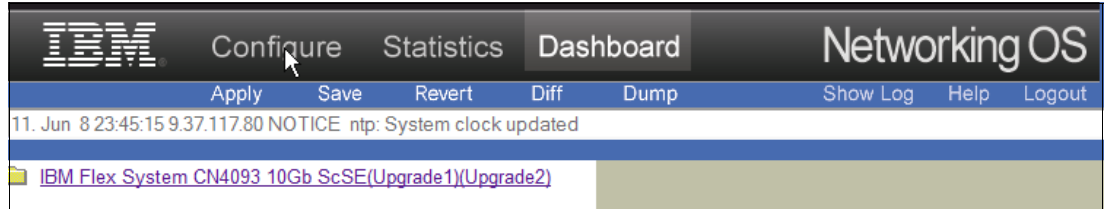

Figure 8-3 Configure tab
3. Click the **Configure** tab as shown in Figure 8-3.